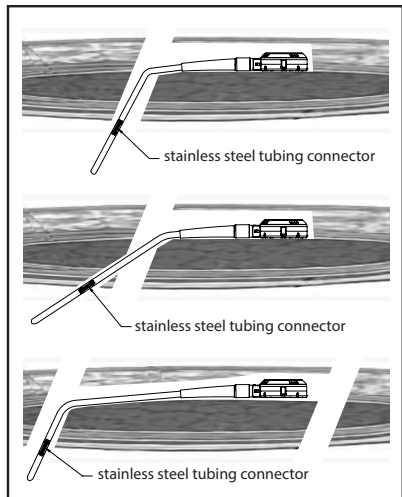

Figure 2. Port Placement Options
- CAUTION:** Failure to create a stable, smooth path for the access port tubing, without sharp turns or bends, can result in tubing breaks and leakage. In order to avoid incorrect placement, the access port should be placed lateral to the trocar opening. A pocket must be created for the access port so it is placed far enough from the trocar path to avoid abrupt kinking of the tubing. The tubing path should point in the direction of the RapidPort® EZ Access Port connector. (**Figure 2**)